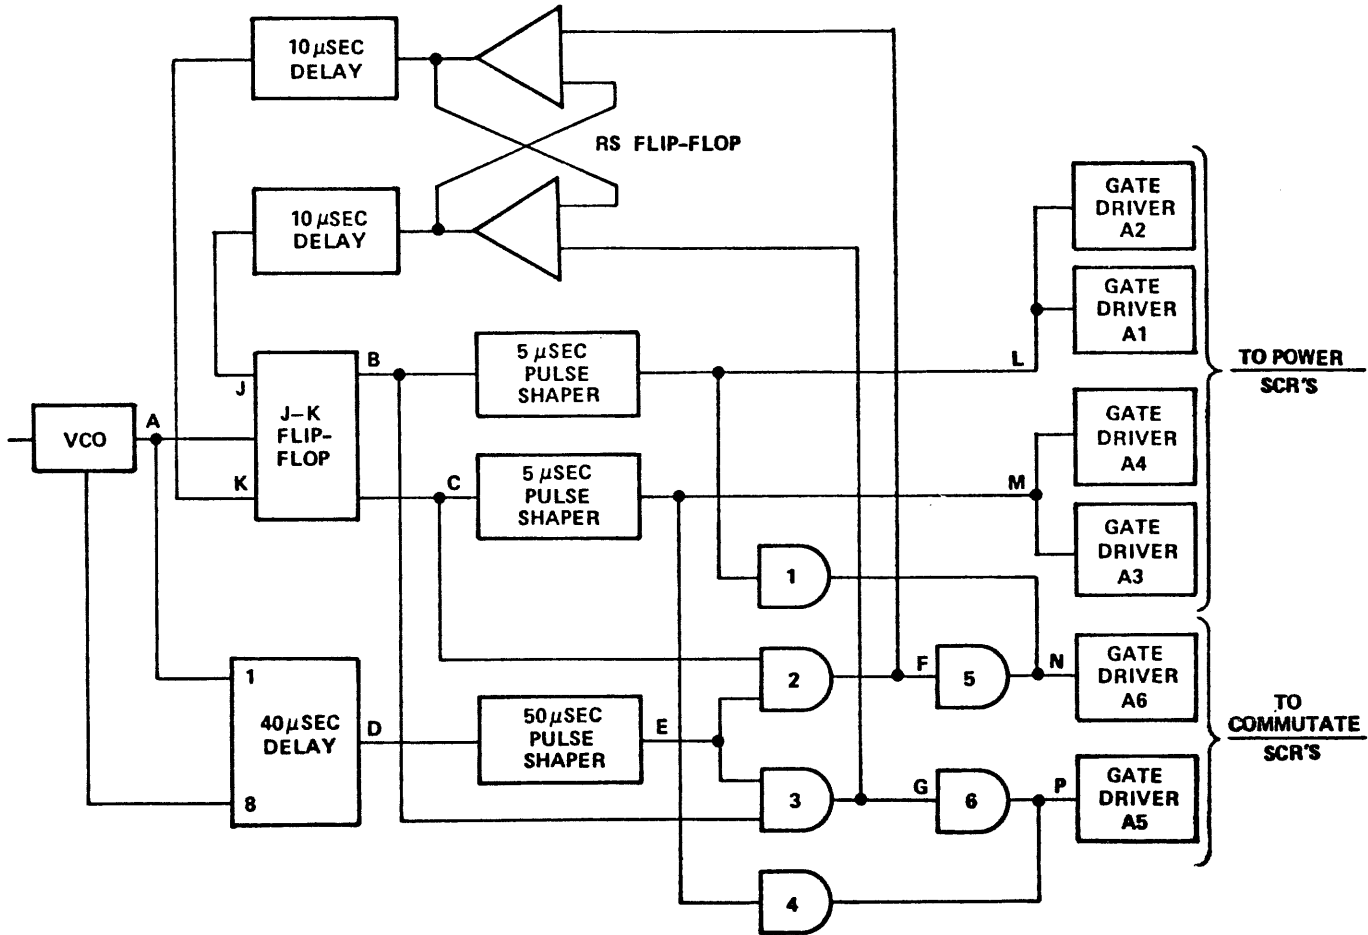

Figure 3-48. Inverter Timing Circuit Block Diagram
The logic timer and gate driver circuit serves to properly sequence the firing of the power and commutating SCR's in the inverter, effectively determining the inverter pulse length. The circuitry to perform this function consists of several flip-flops, delay lines, and pulse shapers as shown in figure 3-48.
- a. Assuming that the "J" input to the J-K flip-flop in figure 3-48 is initially high and the "K" input is low, the trailing edge of the next VCO output pulse causes the set output (B) of the flip-flop to go high and the reset output (C) to go low.
- d. The 40  $\mu$ s delayed pulse from the shaper is ANDed with the Set and Reset outputs of the J-K flip-flop at gates 3 and 2 respectively. Since the flip-flop set output (B) is still high at this time, the delayed pulse is passed to gate driver A5. The driver triggers commutating SCR A5, discharging the commutating tank circuit, and thereby terminating the inverter output pulse by reverse biasing the two conducting power SCR's.